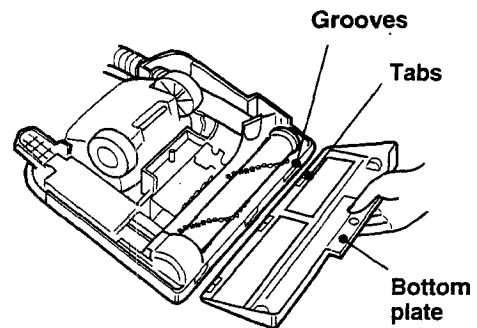

Fig. 30
- 1 Insert the front six tabs of the bottom plate into the grooves at the front end of the nozzle head, then reset the bottom plate. (Fig. 30)